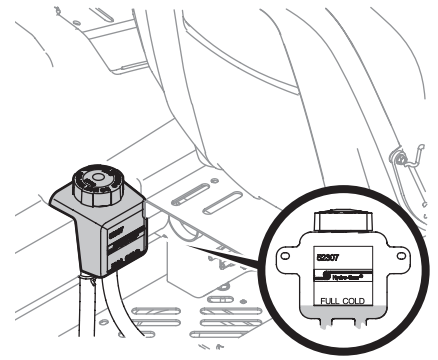

Figure 35
1. Pivot the operator's seat forward and clean the reservoir cap and the area around the cap to prevent debris from contaminating the transmission oil. See Figure 35.
2. Turn the reservoir cap counter-clockwise to remove, then check the oil level in the reservoir. Oil should be visible at the bottom of the cup, but the oil level must NOT be above the "FULL COLD" line. See Figure 35. **DO NOT FILL THE RESERVOIR.**